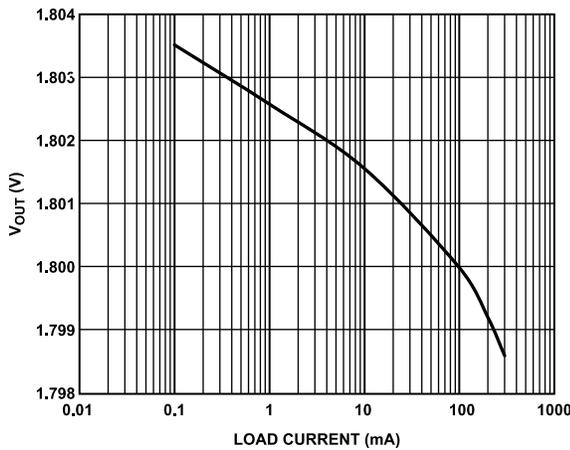

Figure 4. Output Voltage vs. Load Current
- ¹ Based on an end-point calculation using 1 mA and 300 mA loads. See Figure 4 for typical load regulation performance for loads less than 1 mA.